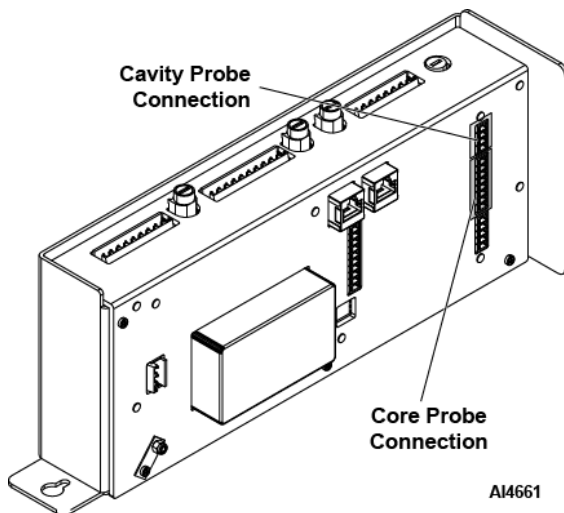

Fig. 81
3. Remove appropriate connector from output control assembly (Fig. 81).